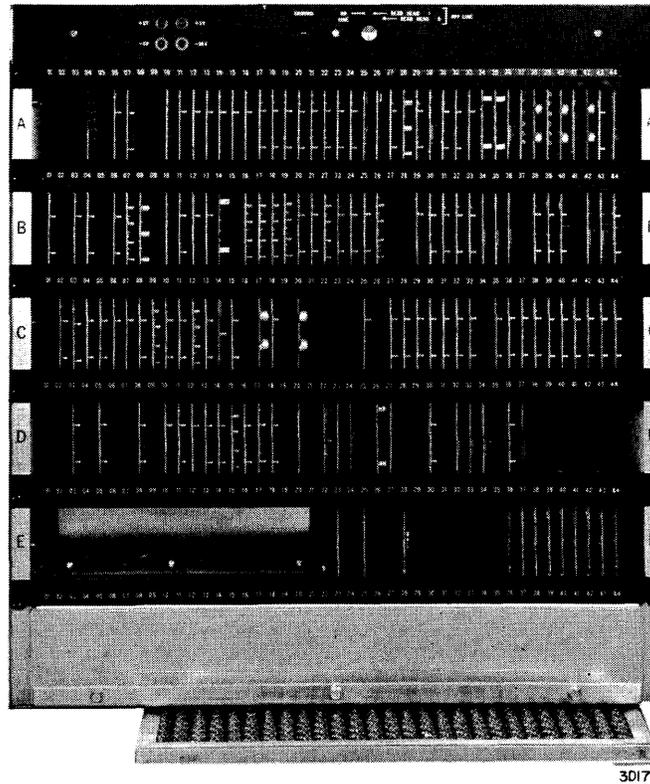
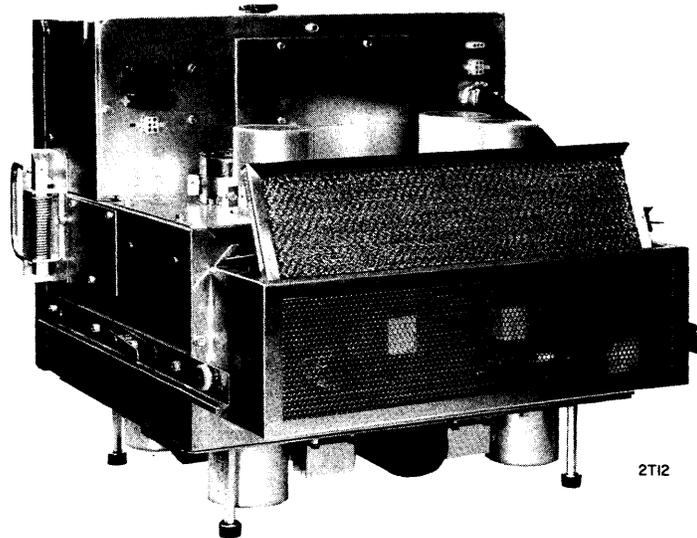

Figure 5-4. Air Filter at Bottom of Logic Chassis
Figure 5-5. Air Filter at Rear of Power Supply
1. Remove the air filters from the bottom of the logic chassis (Figure 5-4) and at the rear of the power supply (Figure 5-5).